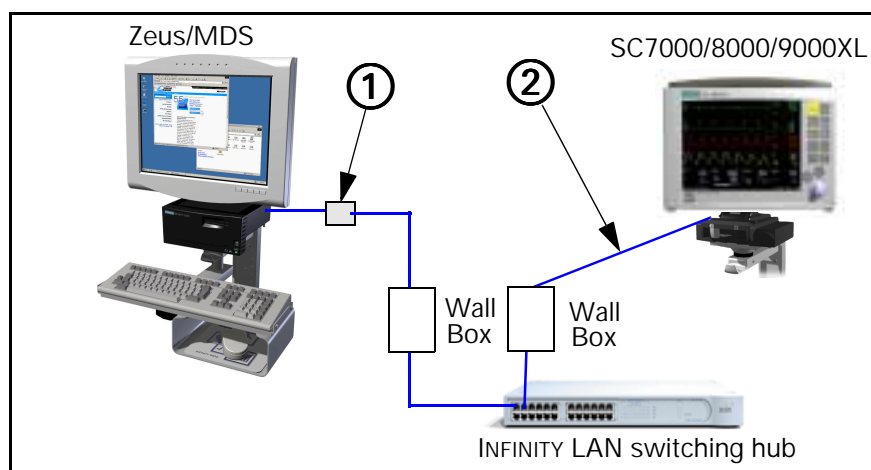

Figure 12-5 INFINITY Network Dual Point Connection
- 1.2) Plug other end of Ethernet crossover cable into Ethernet coupler, ① in Figure 12-5.